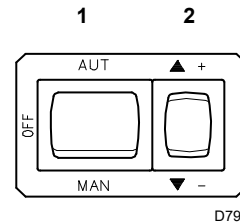
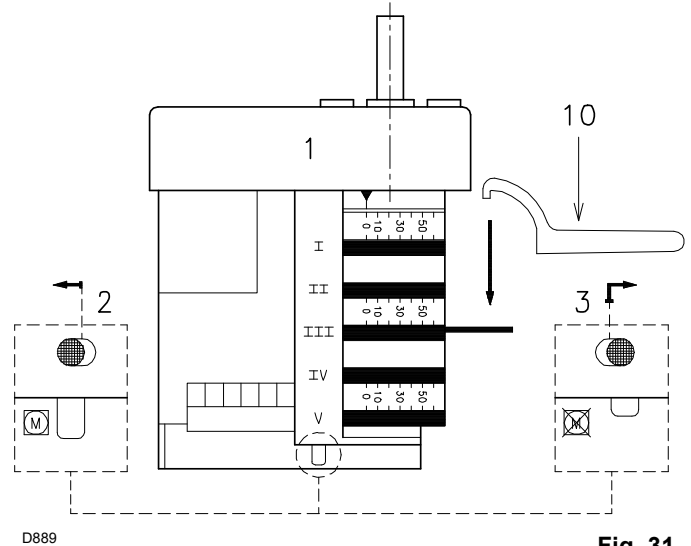

Fig. 27
Fig. 31
Close load controls and set switch 1)(Fig. 27) to "MAN". After burner firing a complete burner adjustment should be performed.
Set switch 1)(Fig. 27) to "ON".
In the above instructions we left the burner running in MIN output operation. Now press button 2)(Fig. 27) "+" until servomotor arrives at 130°.
Press button 2)(Fig. 27 on page 24) “output reduction“ and keep it pressed until the servomotor has reached 20° (factory setting).
Press the switch 2)(Fig. 27 on page 24) “output increase“ a little so that the servomotor turns by about 15°. Adjust the screws until optimal combustion is obtained. Proceed in the same way with the other screws.
Switch the burner off with switch 1)(Fig. 27 on page 24), at the OFF position, disengage the cam 2)(Fig. 30) from the servomotor, by pressing the button 3)(Fig. 31) and moving it to the right, and check more than once that the movement is soft and smooth, and does not grip, by rotating the cam 2) forward and backward by hand.
Engage cam 2) to the servomotor again by moving button 2)(Fig. 31) to the left.
In order to adjust cam III, especially for fine movements, key 10)(Fig. 31), held by a magnet under the servomotor, can be used.
- 6 s :** Servomotor starts: 130° rotation to right, until contact is made on cam I)(Fig. 31 on page 26).The air gate valve is positioned on MAX. output.
- 85 s :** Servomotor rotates to left until contact is made on cam III) (Fig. 31 on page 26).
- The burner locks out when demand for heat is less than the heat supplied by the burner in the MIN output (section F-G). Load control TL opens. The servomotor returns to the 0° angle limited by contact with cam II)(Fig. 31 on page 26). The gate valve closes completely to reduce thermal dispersion to a minimum.
Disengage the cam 2)(Fig. 31 on page 26) from the servomotor, by pressing and moving button 3)(Fig. 31 on page 26) towards the right, and turn it backwards and forwards by hand to make sure it moves freely. Now engage the cam again by moving the button 2)(Fig. 31 on page 26) to the left.